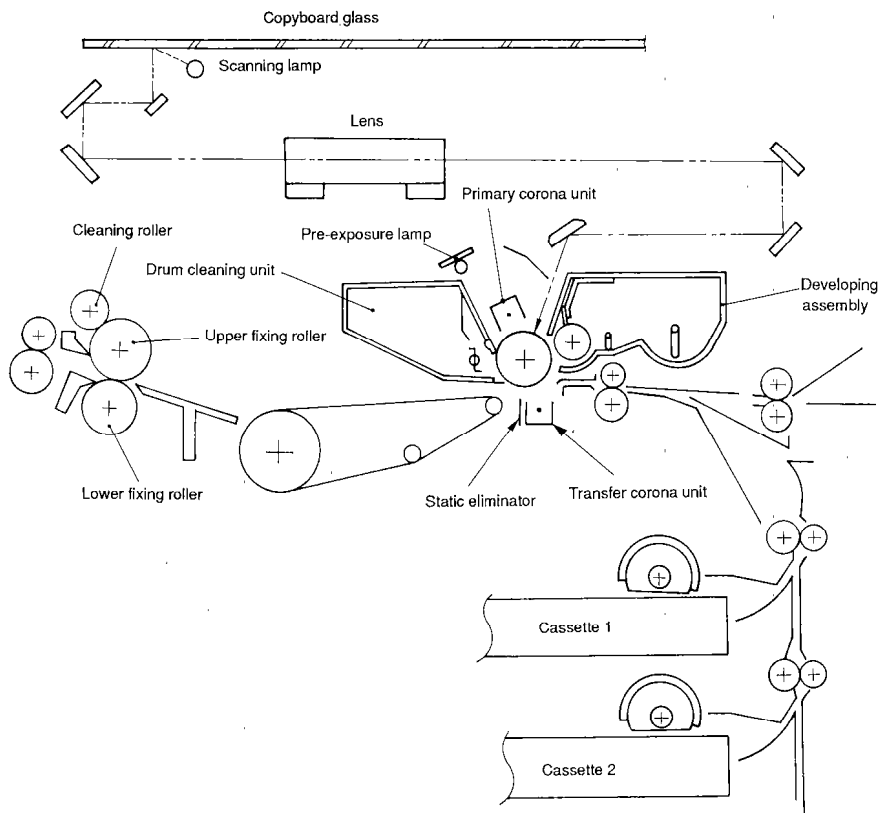

Figure 2-1
1. See Figure 2-1 for the construction of the copier.